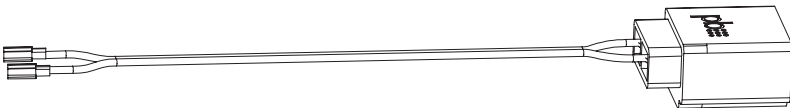

Fig 4
6. Now plug the factory speaker plug into the new speaker. If the factory plug is not long enough try to remove some of the tape on the wire to extend it or use the supplied extension cable (see Fig 4, pg 4). Reinstall door panel afterwards.
5. Now plug the factory speaker plug into the new speaker. If the factory plug is not long enough try to remove some of the tape on the wire to extend it or use the supplied extension cable (see Fig 4, pg 4). Reinstall door panel.